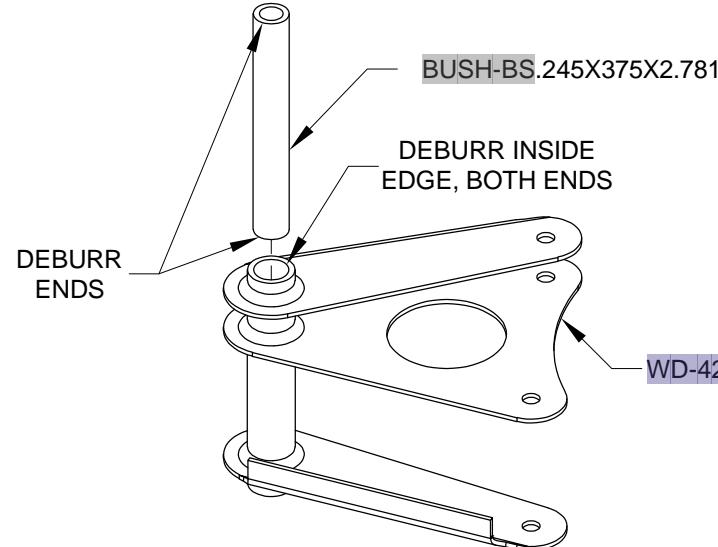

FIGURE 1:
Step 1: Check that the length of both of the **BUSH-BS.245X375X2.781** Aileron Bellcrank Bushings is between 2 3/4 inches and 2 25/32 inches. Check that an AN4 bolt will fit the inside diameter of the aileron bellcrank bushings and ream if required. Deburr the ends of the aileron bellcrank bushings so that they slide easily inside the **WD-421** Aileron Bellcranks. See Figure 1.
The pivot tube of the aileron bellcrank must be 1/32 inch to 1/16 inch shorter than the aileron bellcrank bushing. File the ends of the aileron bellcrank pivot tubes if/as required to achieve the correct length. Deburr the inside edges of the aileron bellcrank pivot tubes. See Figure 1.
Insert an aileron bellcrank bushing into each aileron bellcrank as shown in Figure 1.